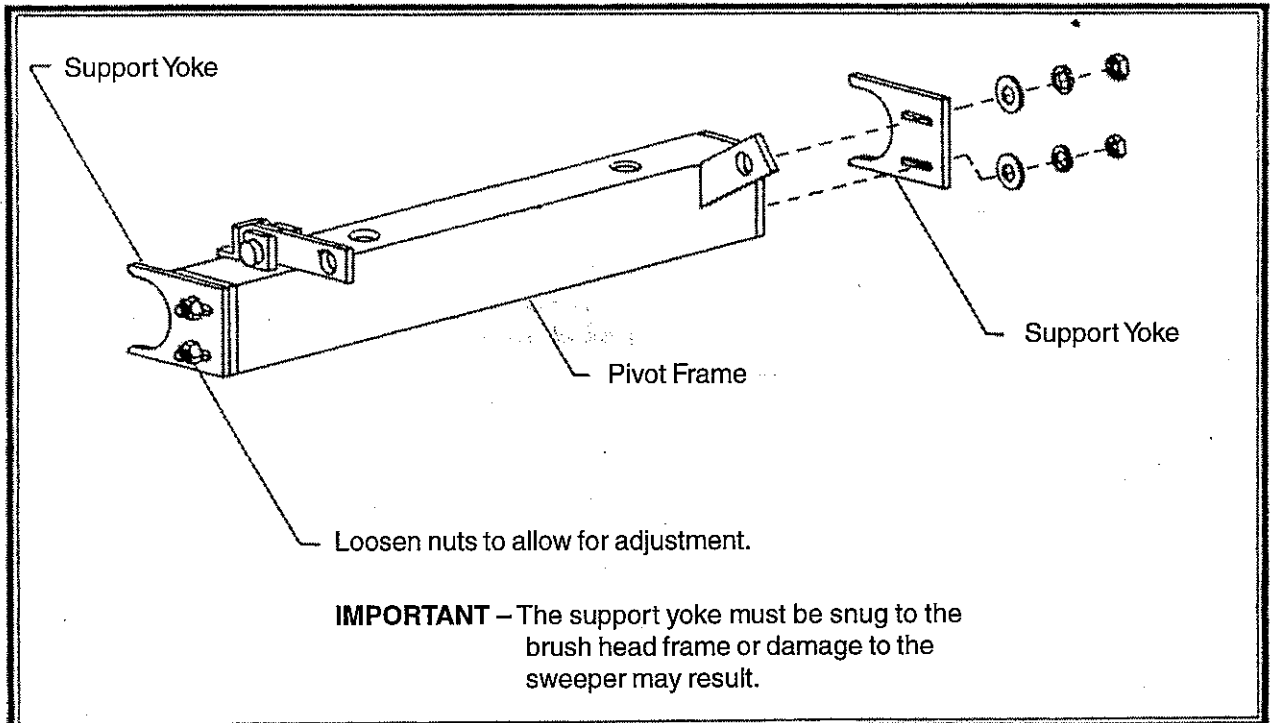

figure 1
1. Loosen two 5/8 carriage bolts in each support yoke (see figure 1).